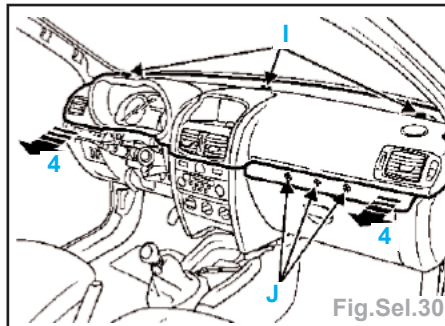

Fig.Sel.30
• les 3 vis sup. (I) (Fig.Sel.30).